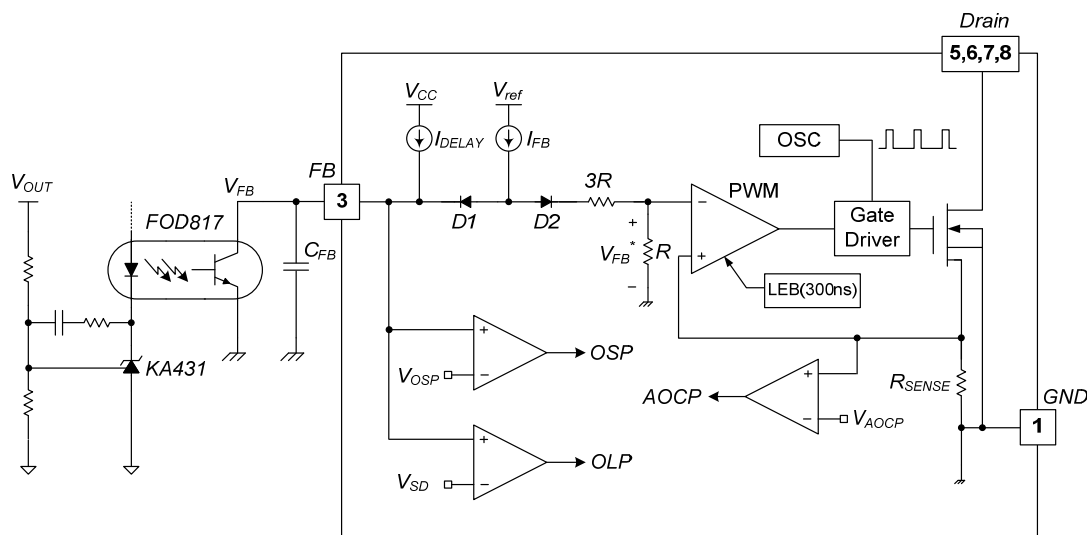

Figure 18. Pulse Width Modulation Circuit
3. Feedback Control: This device employs current-mode control, as shown in Figure 18. An opto-coupler (such as the FOD817) and shunt regulator (such as the KA431) are typically used to implement the feedback network. Comparing the feedback voltage with the voltage across the R_{SENSE} resistor makes it possible to control the switching duty cycle. When the reference pin voltage of the shunt regulator exceeds the internal reference voltage of 2.5V, the opto-coupler LED current increases, pulling down the feedback voltage and reducing drain current. This typically occurs when the input voltage is increased or the output load is decreased.
3.1 Pulse-by-Pulse Current Limit: Because current-mode control is employed, the peak current through the SenseFET is limited by the inverting input of the PWM comparator (V_{FB}^*), as shown in Figure 18. Assuming that the $90\mu A$ current source flows only through the internal resistor ($3R + R = 27k\Omega$), the cathode voltage of diode D2 is about 2.5V. Since D1 is blocked when the feedback voltage (V_{FB}) exceeds 2.5V, the maximum voltage of the cathode of D2 is clamped at this voltage. Therefore, the peak value of the current through the SenseFET is limited.